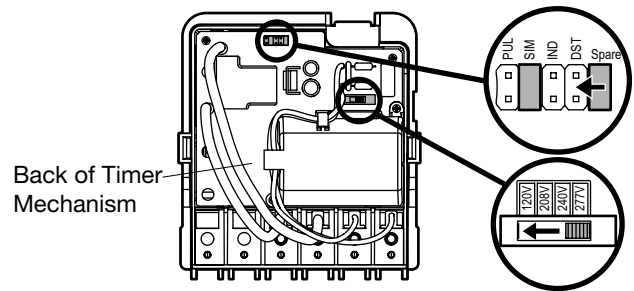

FIG. 2 Setting the Voltage, DST, and SIM/IND/PUL
2. Set the voltage selector for the desired input voltage. The Time Switch is shipped with voltage set for 277 VAC. **To operate at 120, 208 or 240 VAC, move the selector switch to the desired setting as marked on the circuit board.** See FIG. 2.
3. The timer is shipped with DST (Daylight Saving Time) enabled. To disable DST, move the jumper from Spare to DST. See FIG. 2.
4. Decide whether you want to control multiple loads simultaneously (SIM), independently (IND), or with a 2-second pulse (PUL) (e.g., for use with mechanically held contactors or bell ringing applications), and make sure the jumper is positioned accordingly. See location B in Rear View above and detail at the right. See FIG. 2. (The unit is shipped with the loads set for IND.)
Note: You must reset the Time Switch using this procedure whenever you change the jumpers described in FIG. 2 (SIM/IND/PUL or DST). To reset the Time Switch, press and hold the **ENTER** button, then press the **RESET** button. The screen will flash 12:00 AM, and the Time Switch status is Manual Mode.